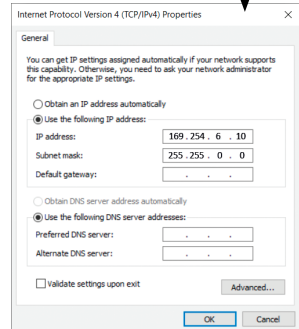

Fig. 8
4. On IPv4 properties screen, select Use the following IP Address option (Fig. 8).
5. Enter the following IP address: 169.254.6.xxx (any number except 225). As you can see in above image (Fig. 8), the first 3 number sets (169.254.6) in IP Address field need to be the same as the Camera IP address. You can only change the last number set with any number from 1 to 254. Click in the Subnet Mask area, which should auto complete. Click OK.